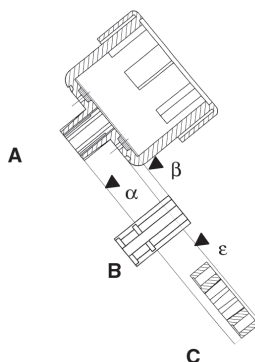

Fig. 8.3.1 C -
- **Warning!** Verify that the value of the dimension Q (Fig. 8.3.1 F) is 3 mm.